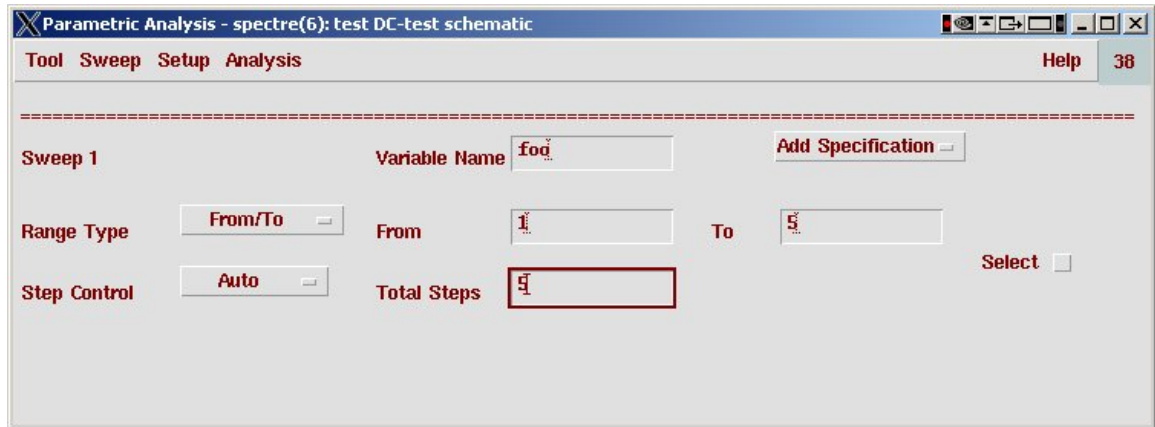

Figure 6.34: Dialog to set variable parameters for parametric simulation
8. In this window enter **foo** in the **Variable Name** slot, and range the value of the variable from 1 to 5 with 5 total steps. The dialog box looks like that in Figure 6.34.